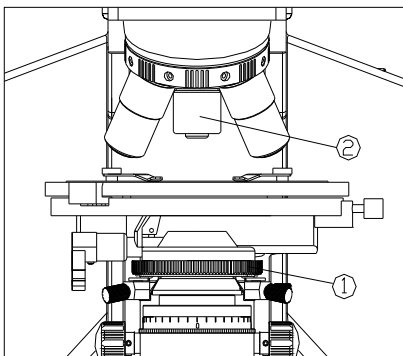

Fig.28
Change the size of aperture diaphragm by turning the aperture diaphragm adjusting ring ①. (See Fig. 28).